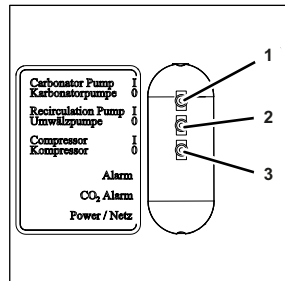

Figure 19
1. Turn the compressor switch (Figure 19/3) to position "0".
2. Turn the circulation pump switch (Figure 19/2) to position "0".
3. Turn the carbonator pump switch (Figure 19/1) to position "0".